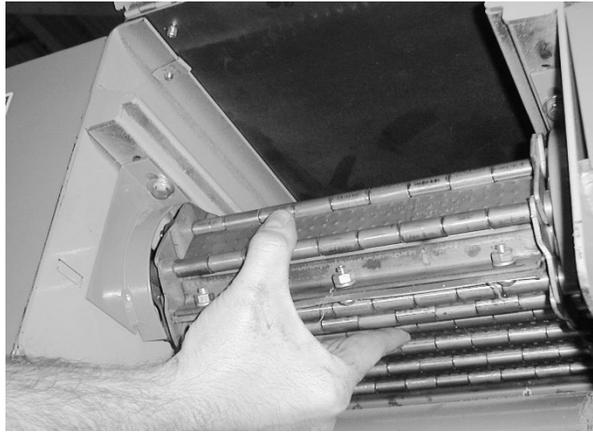

Figure 14: Checking Metal Belt Tension
5. Check belt tension with your hand as shown in Figure 14. Belt slack at this position should be approximately 1/2 to 3/4 inch (13 to 19 mm).